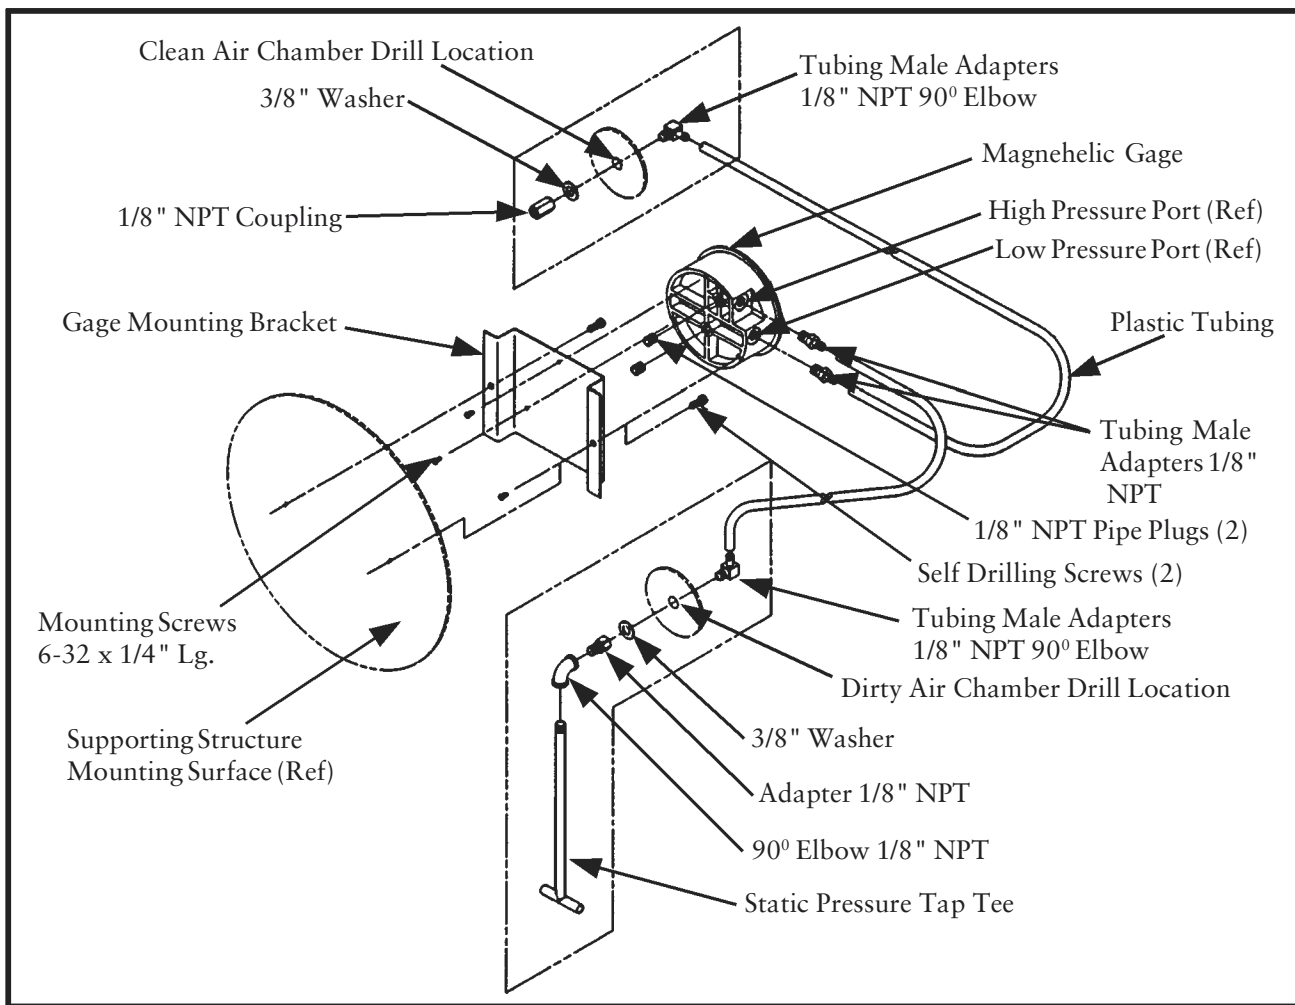

Figure 10
2.6.4 Magnehelic Gage (See Figure 10)
#6-32 x 1/4" long screws (supplied with the gage) as shown in Figure 10, Installation of Magnehelic Gage.
4. Connect the tubing to the high pressure and low pressure port fittings located on the Magnehelic gage. The high pressure port tubing is attached to the pressure fitting mounted in the dirty air chamber (filter section). The low pressure port is attached to the fitting in the clean air chamber (see Figure 10, Installation of Magnehelic Gage).